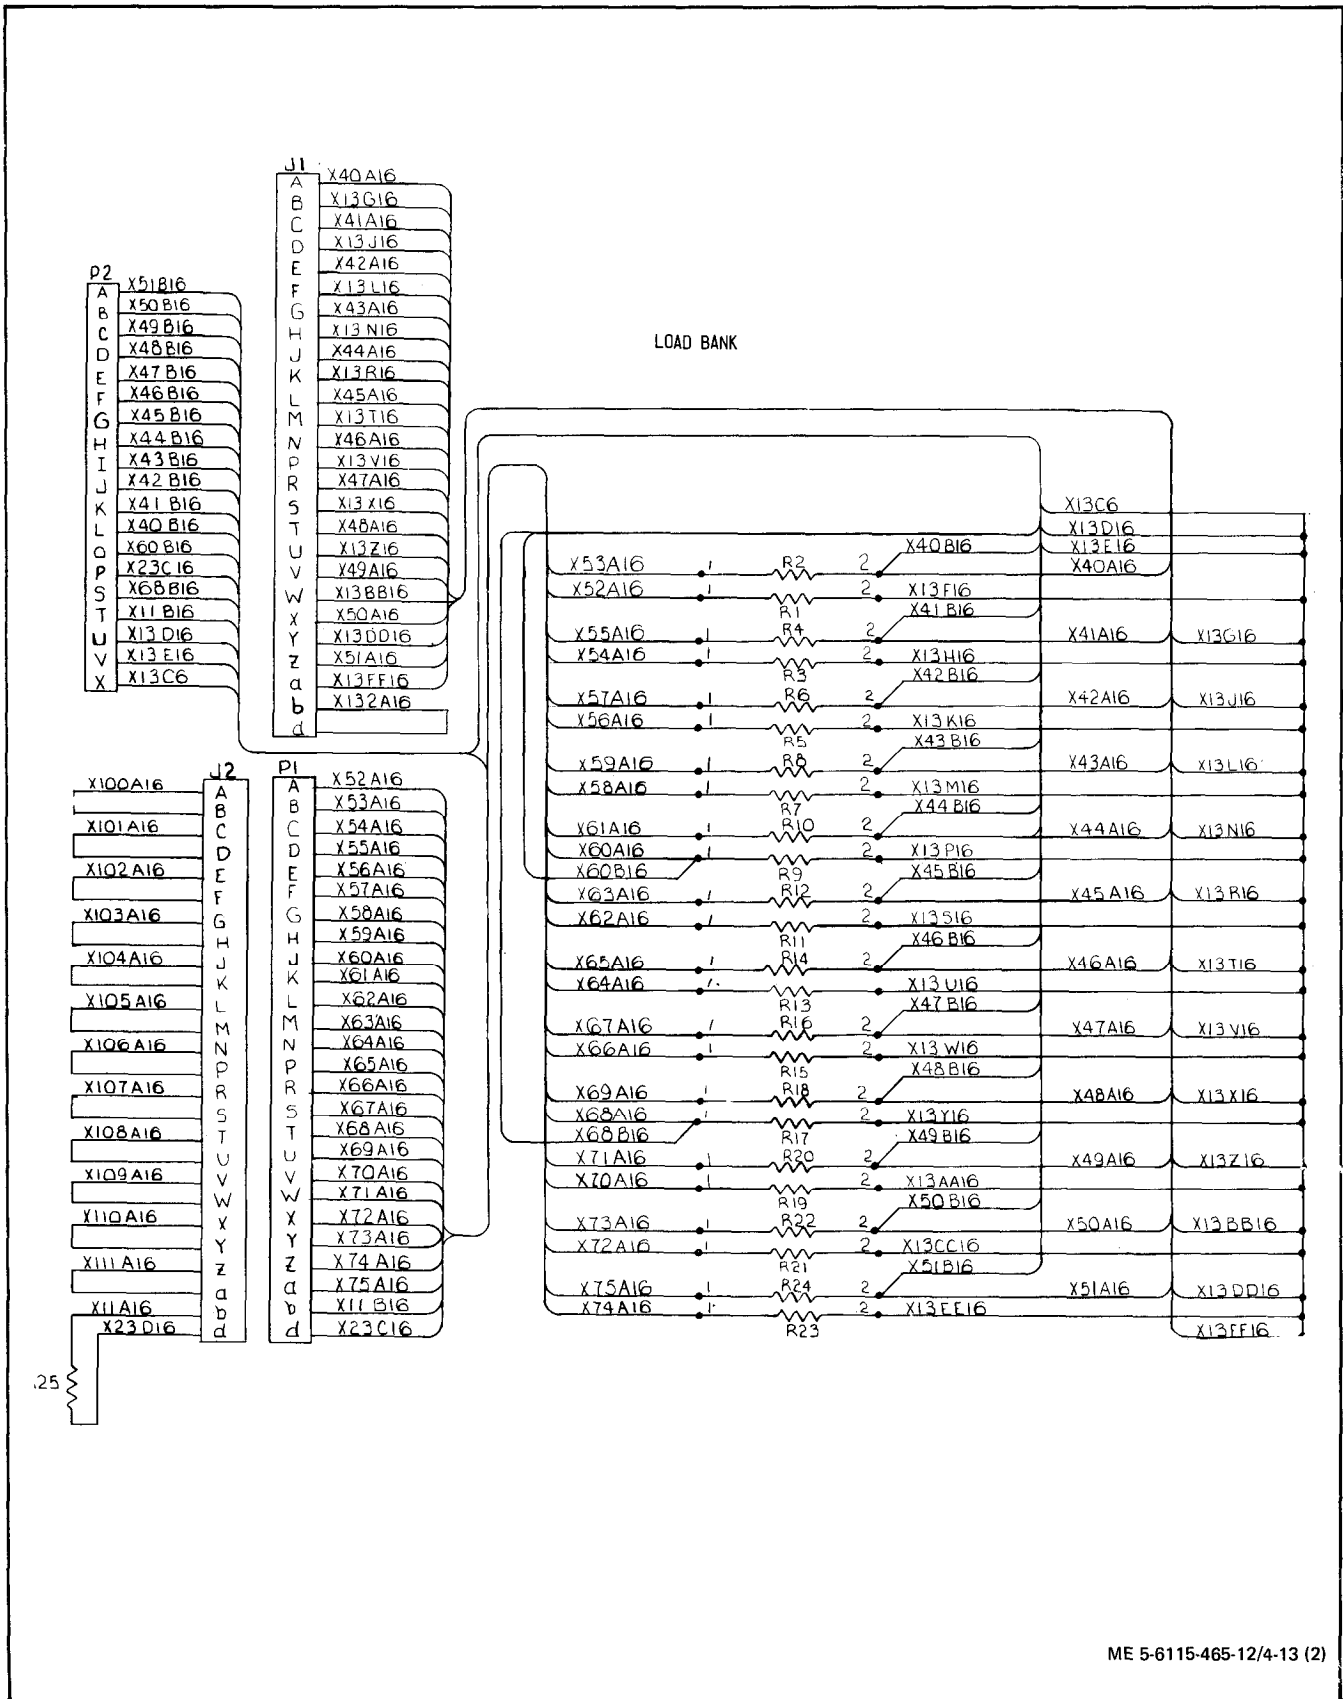

Figure 4-13. Load Bank Wiring Diagram, Dwg. No. 72-2826 (Sheet 2 of 2)
(b) Using an ohmmeter or similar device, check for continuity using figure 4-13 as a guide.
(b) Using an ohmmeter or similar device, check for open circuit between terminals using figure 4-13 as a guide.
(3) Testing. Check continuity of individual wires with a multimeter or continuity light using figure 4-13 as a guide.